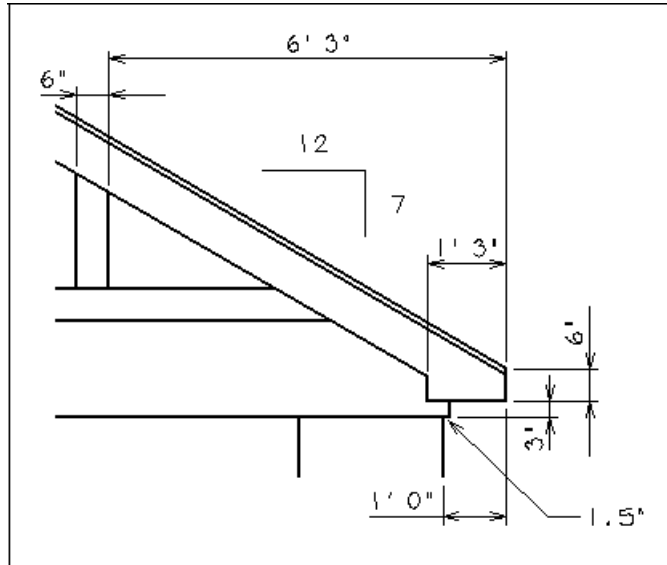

Figure P12-6 Garage roof detail
STEP 3: Use Figure P12-6 as a guide to draw the garage roof.